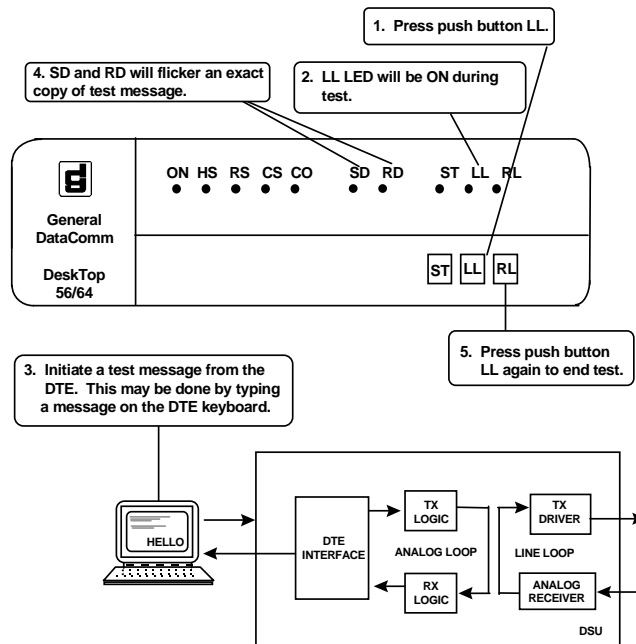

Figure 4-2 Line Loopback Test
Line Loopback (LL) checks the performance of the DSU and its associated DTE. The DSU disconnects its line transmitter and receiver from the communications line, then connects them together, creating a circuit similar to an Analog Loopback circuit that loops signals from the transmitter through the receiver. It also connects the transmit and receive communications lines together, creating a circuit (the Line Loopback circuit) that loops received signals back over the communications line to the remote DSU. *Figure 4-2* illustrates LL.